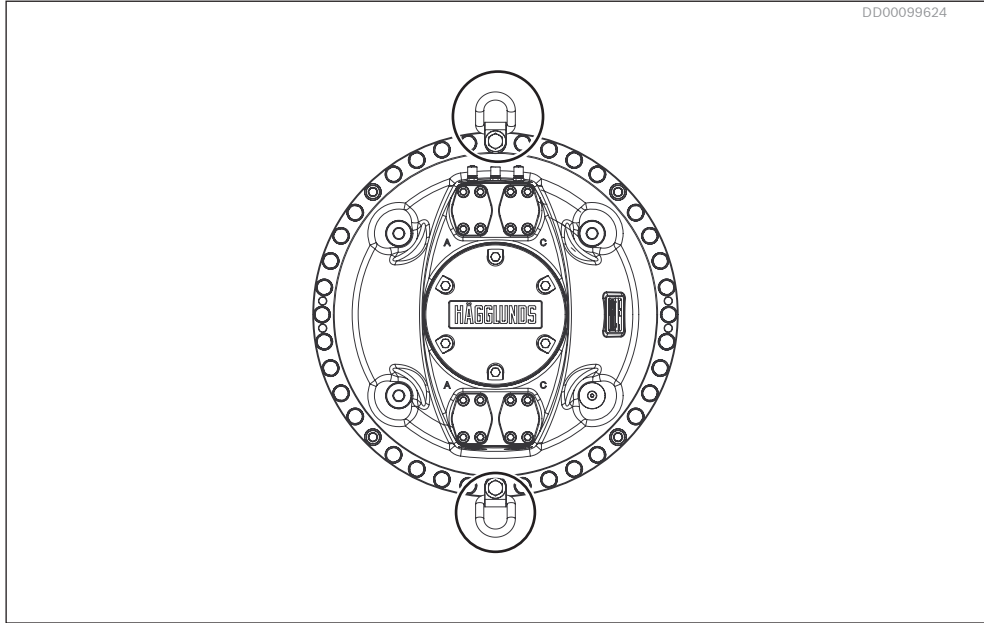

Fig. 4: Lifting eyes at motor
- ▶ Make sure the correct lifting eye is used, see Fig. 4: and Table 5.